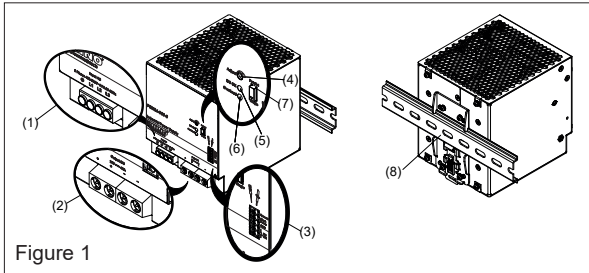

Figure 1
## 2. Device description (Fig. 1)
### 4.1. Input connection (Fig. 1, Fig. 6)
Use L1, L2, L3 and PE connections of input terminal connector (see Fig. 1 (1)) to establish the 3 x 400-500 VAC connection. Fig. 6 shows the connection to the various network types.
### 4.2. Output Connection (Fig. 1 (2))
Use the "+" and "-" screw connections to establish the 24 VDC connection. The output provides 24 VDC. The output voltage can be adjusted from 24 to 28 VDC on the potentiometer. The green LED DC OK displays correct function of the output (Fig. 1 (4)). The device has a short circuit and overload protection and an overvoltage protection limited to 32 VDC.
### 5. Single/Parallel selection (Fig. 1 (7))